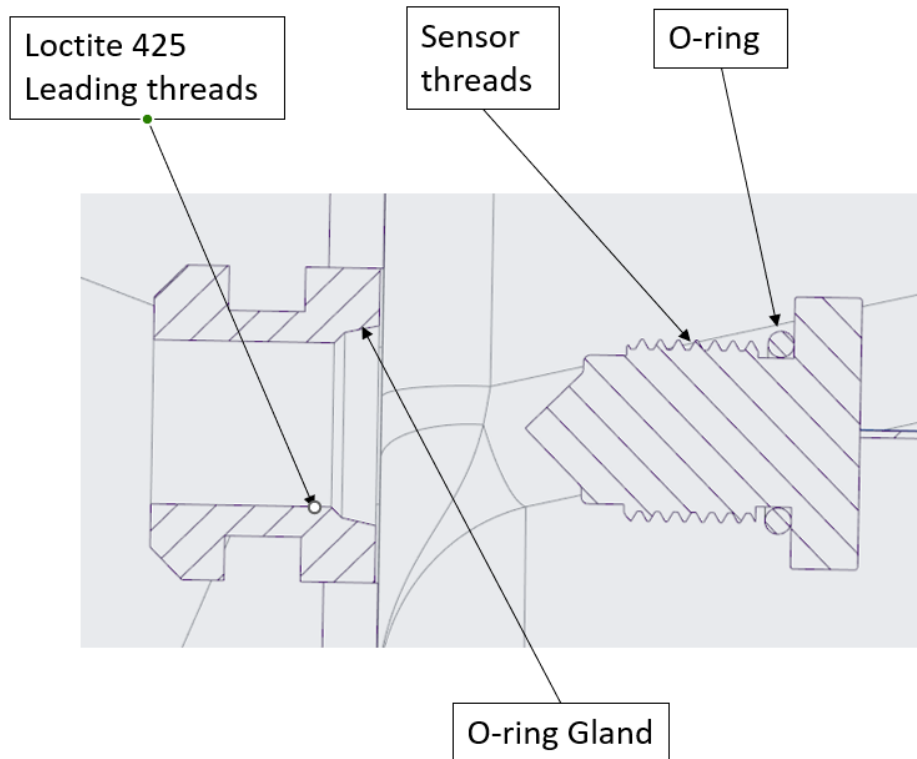
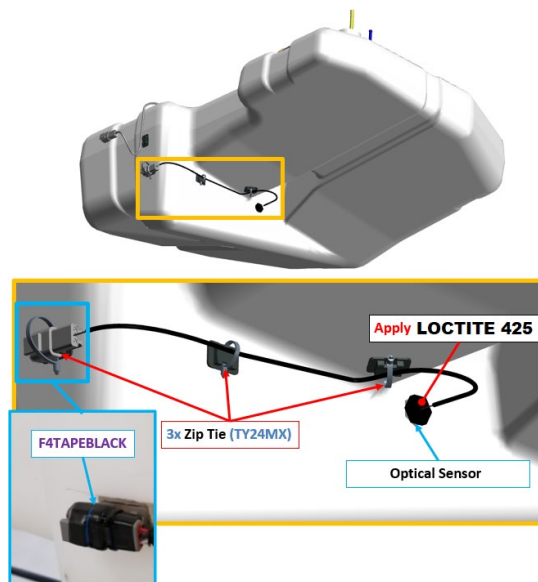

Figure 7. Apply ONE Drop of Loctite 425 to the Leading Threads of the Insert
Figure 8. Install Low Level Sensor
- Using isopropyl alcohol, clean surfaces where Threadlocker will be applied. Apply one small drop of LOCTITE 425 to the leading threads of the Tank insert (not the Sensor) (Figure 7) and install Sensor into bottom of Fuel Tank (Figure 8).